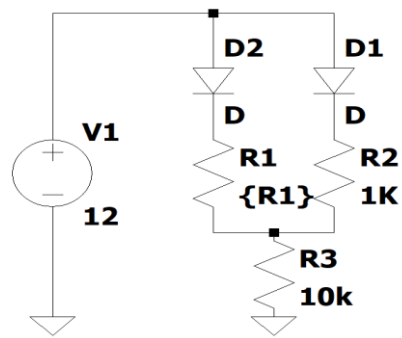

Figure 1.4 Parallel Forward Bias Diodes
1. Connect the Circuit as shown in Figure 1.4.